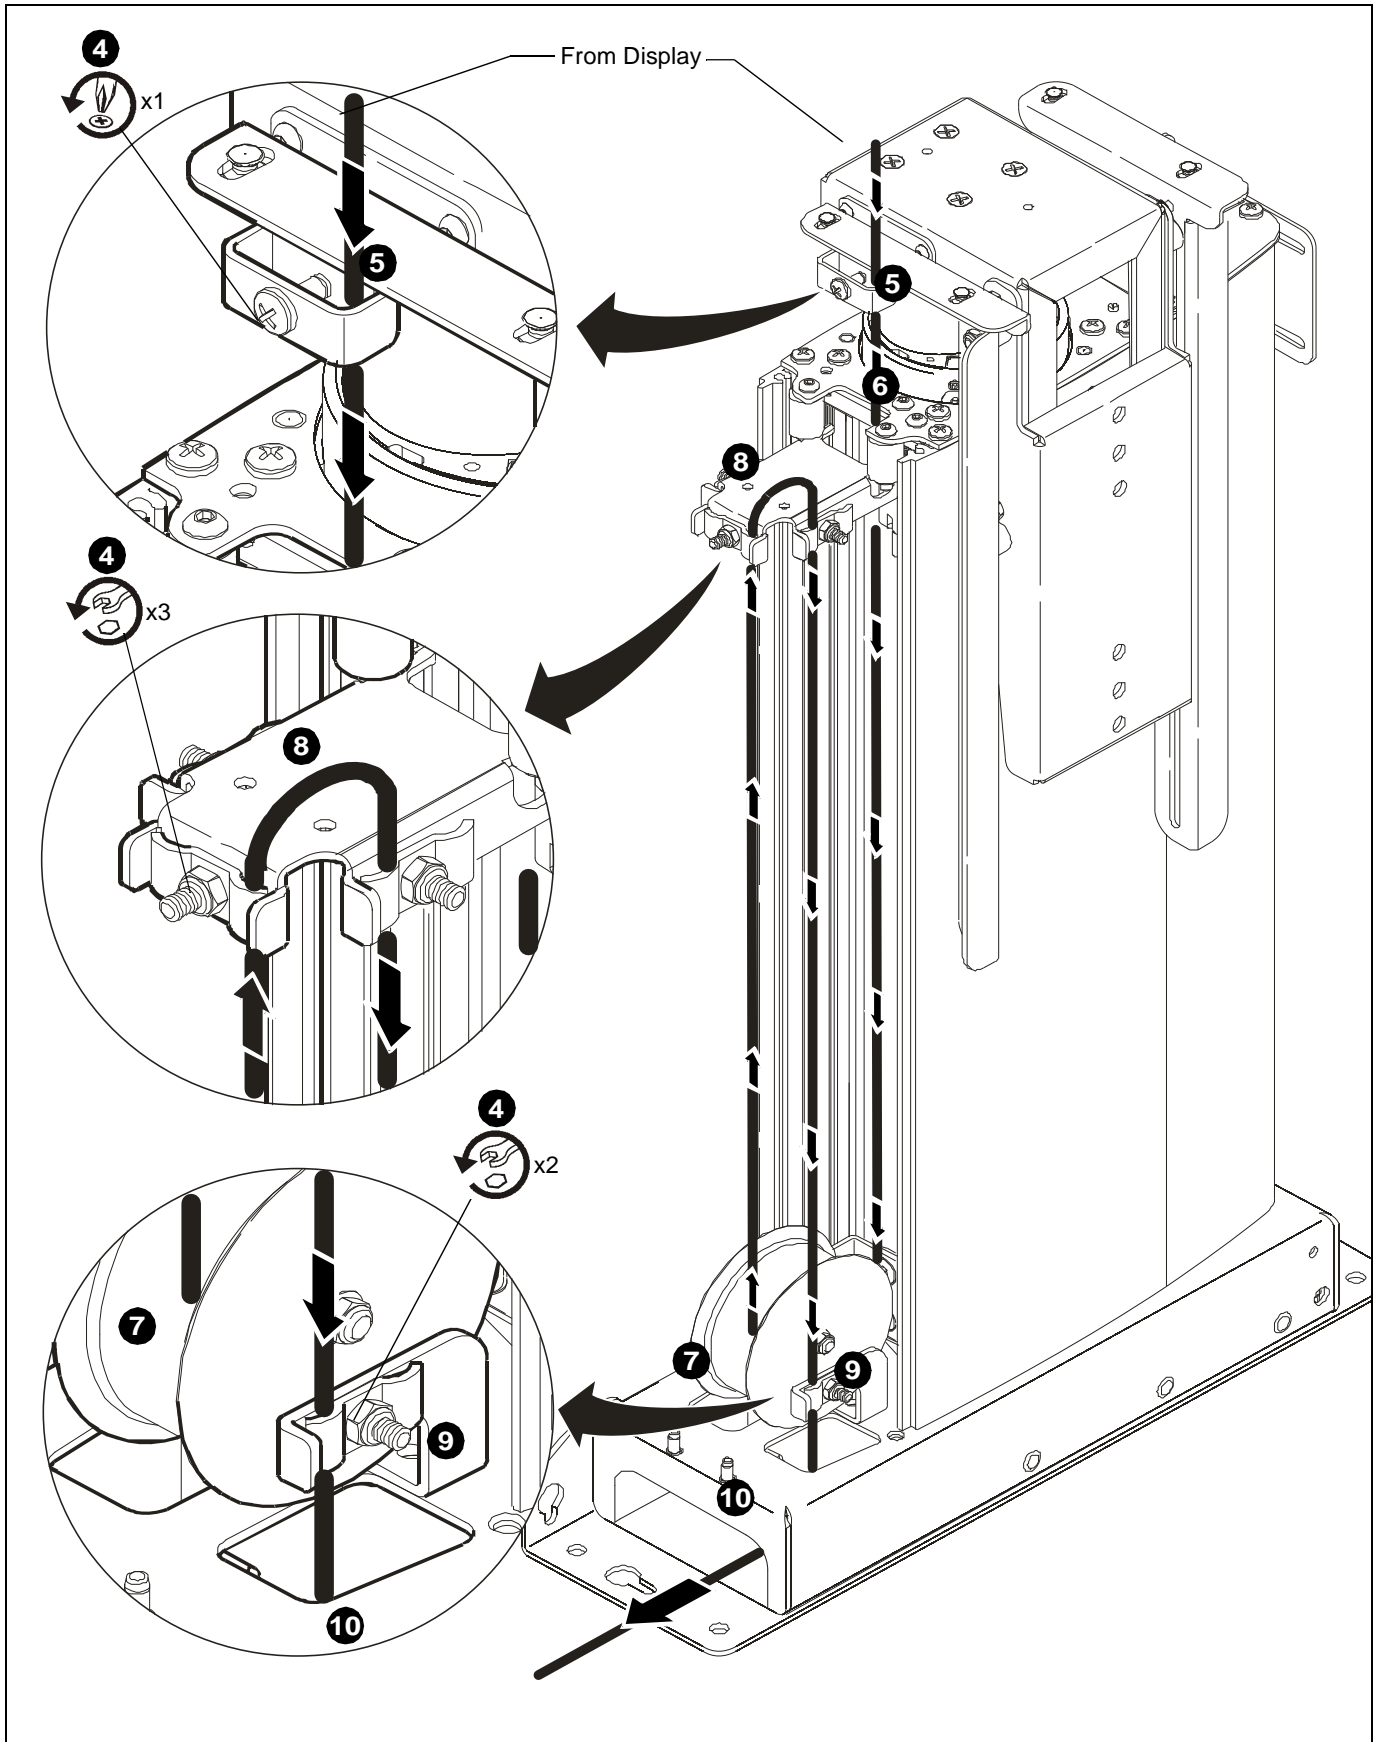
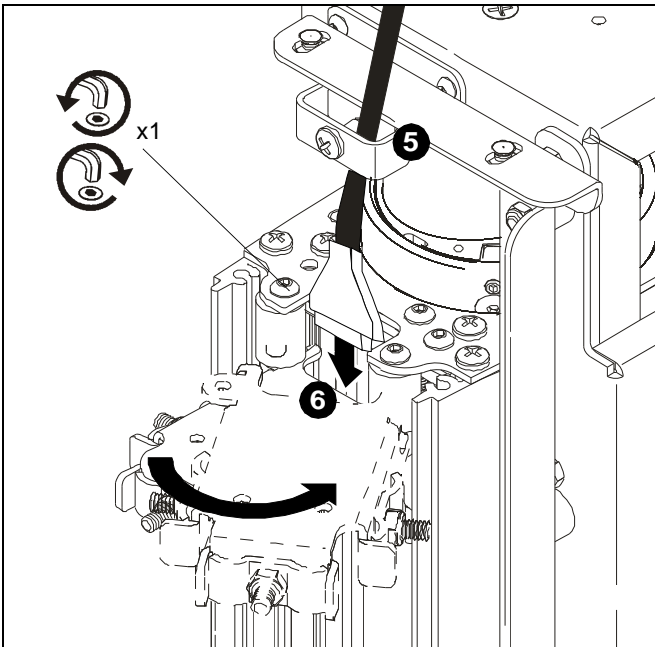

Figure 19
Figure 20
4. Loosen six cable clamps. (See figure 19)
5. Route cable(s) down through upper cable clamp. (See figure 19) and (See figure 20)
- Route cable(s) down through opening at rear of middle cable clamp mounting bracket. (See figure 19) and (See figure 20)
CAUTION: Bracket mounting hardware **MUST** be reinstalled and tightened before continuing with cable installation. (See figure 20)
- Route cable under cable pulley and up through front cable clamp on middle cable clamp mounting bracket. (See figure 19)
- Loop cable and route cable down through side cable clamp(s) on middle cable clamp mounting bracket. (See figure 19)
CAUTION: Cables must not extend higher than 1" (25mm) above cable mounting bracket when looped! (See figure 19)
- Route cable(s) down through lower cable clamp(s). (See figure 19)
- Route cable through cable access opening in top of mount base and cable access opening in side of mount base. (See figure 19)
- Starting at upper cable clamp and working downward, remove slack from all cables and tighten remaining cable clamps. (See figure 19)